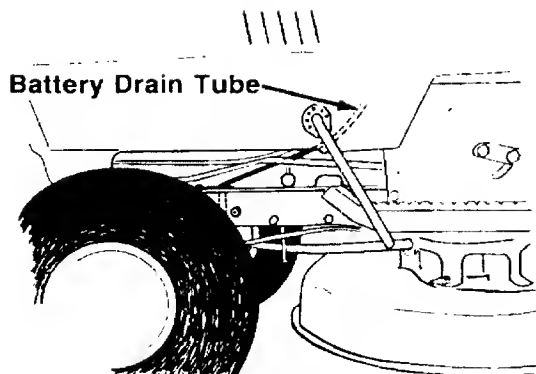

FIGURE 8.
7. Route the battery drain tube down beside the engine, then forward to the hole in the frame shown in figure 8. Insert end of drain tube through the hole in the frame.